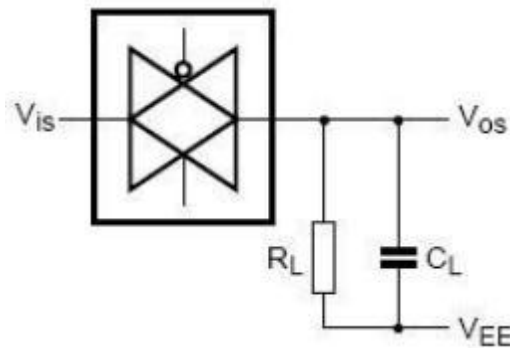

Figure 6. Square wave distortion degree of cut-off frequency and conduction frequency test pattern
- [3] $R_L=1k\Omega$; $C_L=5\text{pF}$, channel off, $20\log V_{os}/V_{is}=-50\text{dB}$, see Figure 6.
- [4] $R_L=1k\Omega$; $C_L=5\text{pF}$, channel on, $20\log V_{os}/V_{is}=-3\text{dB}$, see Figure 6.